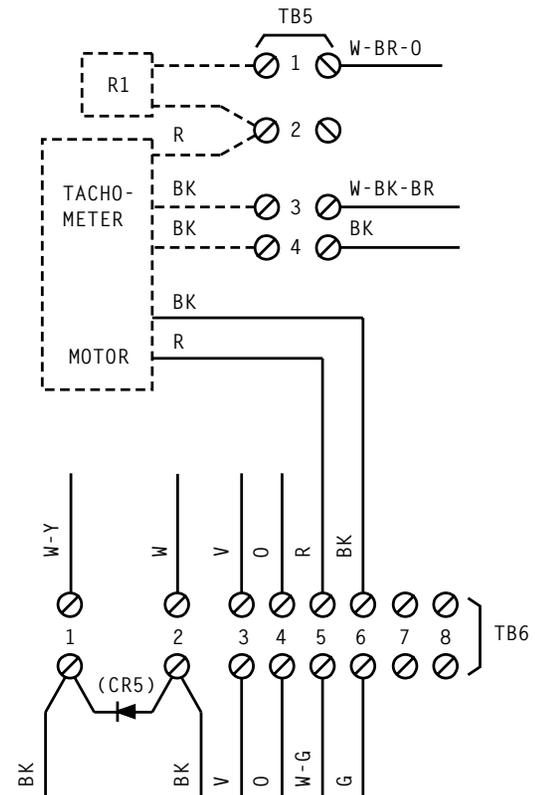

Figure 1 - Terminal Board Wiring (TB5 and TB6)
3. At rear of transport casting door, remove three cable assembly leads from **TB5** and two motor leads from **TB6** [Figure 1]
9. Connect three cable assembly leads to **TB5** and two motor leads to **TB6** [Figure 1]